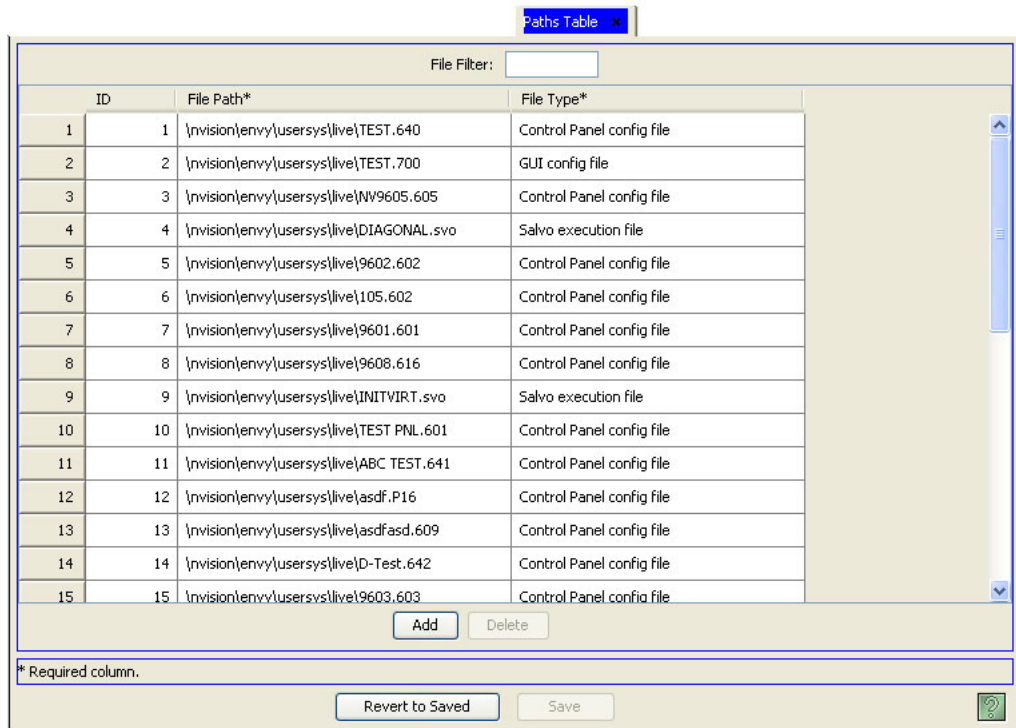

Figure 4-9. Paths Tables
- 2 From the Navigation area, select the 'Views' pane and then 'Paths'. The 'Paths' table appears, as shown in Figure 4-9.